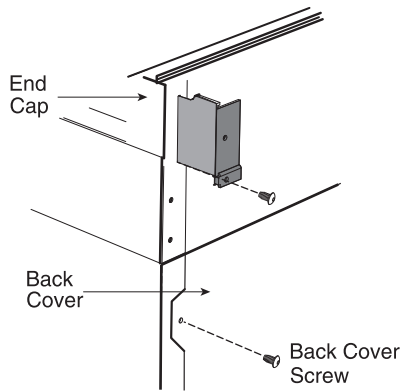

Figure 12
- 1 Remove the screws from the cooktop back frame end cap on both sides and the screws from the range back cover on both sides, as shown in Figure 12. The endcaps and mounting screws may be located near or inside backsplash accessory pack.